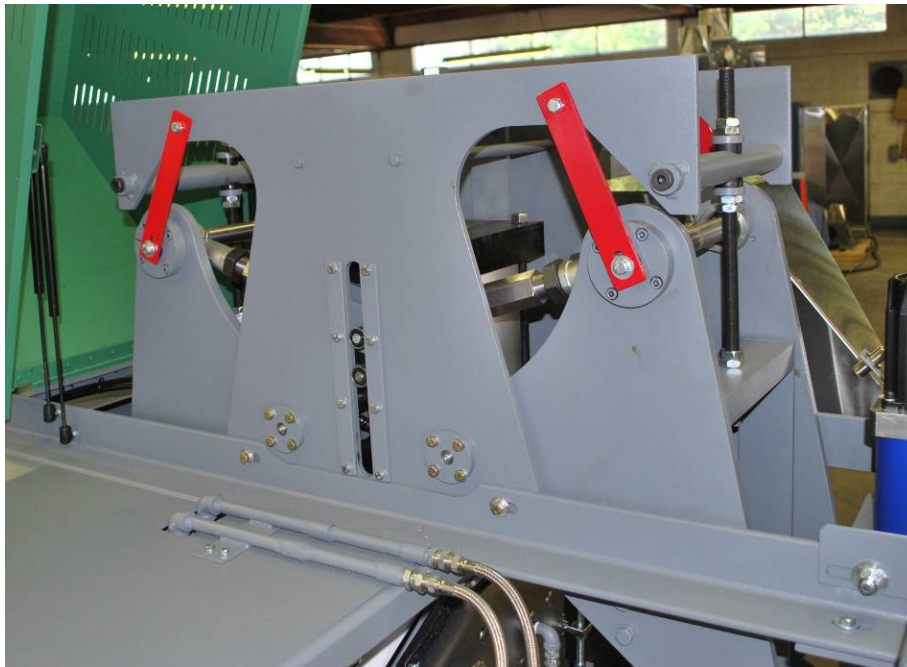

Figure 1 - Shipping Brackets
3. After the machine is set in place, remove all red shipping brackets (see Figure 1).